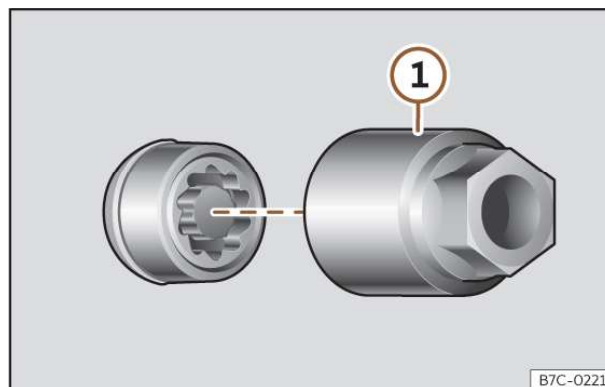

Fig. 204 Anti-theft wheel bolt with cap and adapter.
- Insert the special adapter >>> **Fig. 204 ①** (vehicle tools >>> **page 301**) onto the anti-theft wheel bolt and push it on as far as it will go.